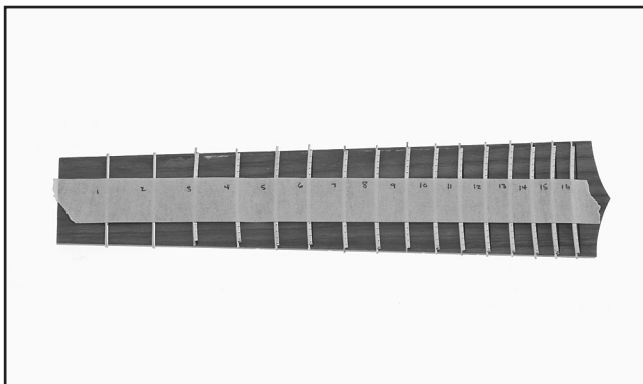

Figure 22. Frets laid out and numbered on the fingerboard.
2. While the frets are laid out on the fingerboard, lay a piece of masking tape down the length of the board and number the frets, as shown in **Figure 22**.